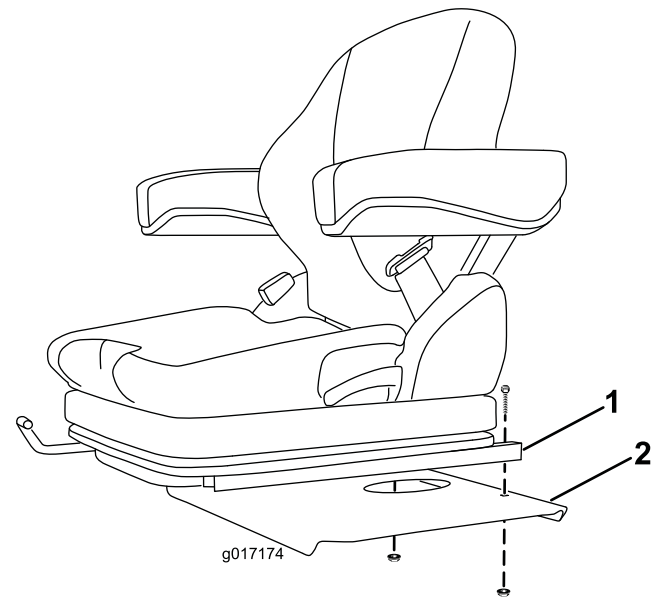

Figure 4
- 1. Mount the rear of each seat slide to the seat base with a bolt and flange nut (Figure 4).